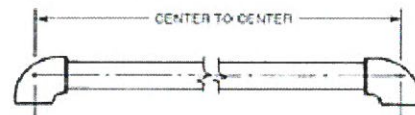

FIGURE 85
5. Pipe lengths are measured from center of fitting to center of fitting. See Figure 85